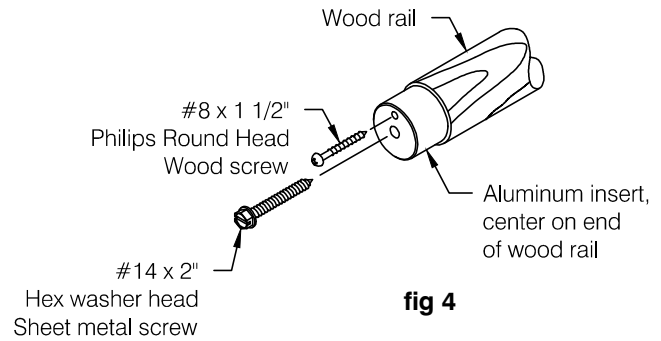

fig 4
- Step 5:** Apply a thin coat of adhesive (provided) to one face of the aluminum insert. Place the insert with the adhesive face against the dowel and secure in place using the #14 x 2" hex washer head screw provided. Keep aluminum insert centered on rail while tightening. With the insert in place, drill into wood approximately 3/4" using a #27 bit and the small hole provided in the insert as a guide. To prevent the insert from rotating, install #8 x 1 1/2" Philips round head wood screw (provided), see **fig 4**.